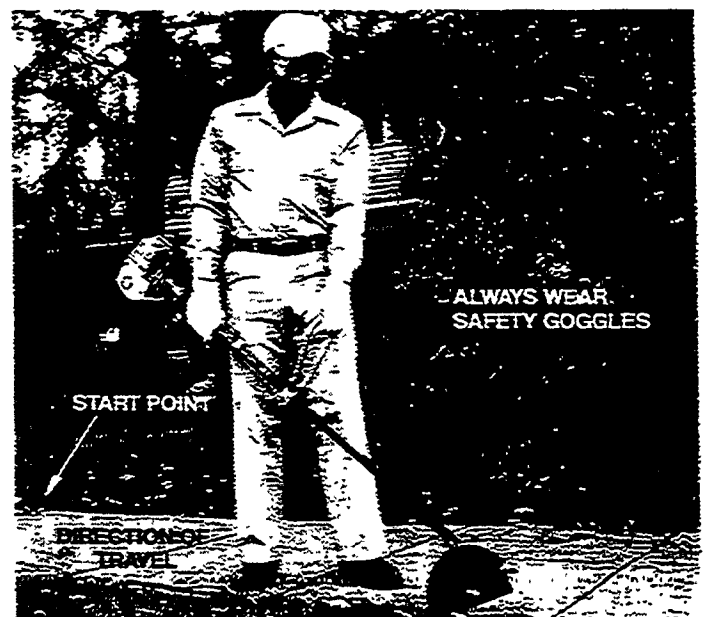

Figure 36
- Start the engine and run at half throttle before putting blade into the ground. Gently lower the blade into the ground at the point you wish to start edging. Be careful not to hit the concrete (Fig. 36).
- The correct handling of your edger is shown in Fig. 36.